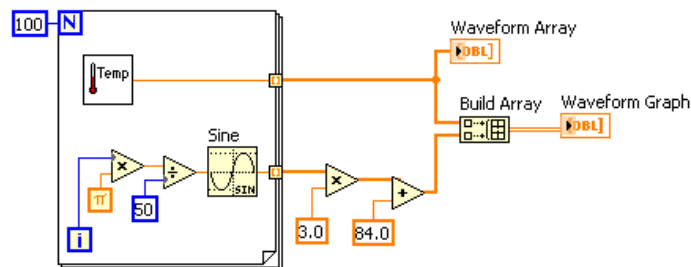

Figure 5.20
3. Return to the block diagram. Create a multiple-plot waveform graph by building a 2D array of the data type normally passed to a single-plot graph. Modify the block diagram as shown in Figure 5.20.
- d. Wire the block diagram as shown Figure 5.20.